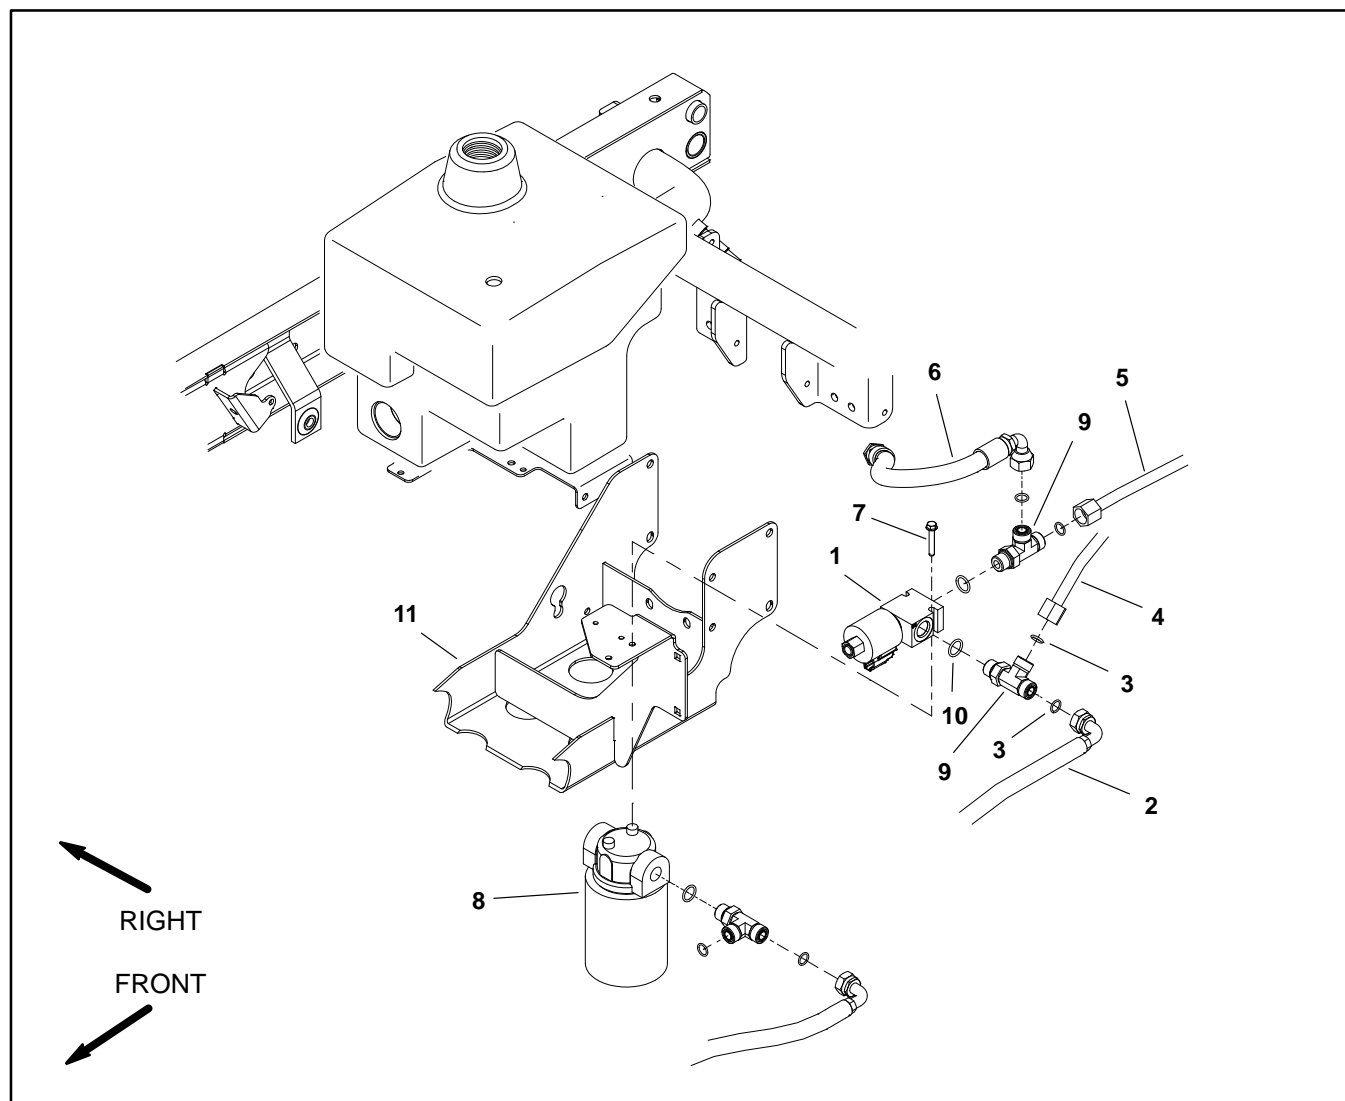

Figure 46
Removal (Fig. 46)
4. Remove manifold from vehicle using Figure 46 as a guide.
Valve Cartridge Service (Fig. 46)
Installation (Fig. 46)
2. Install manifold to vehicle using Figure 46 as a guide.